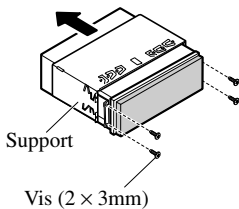

Fig. 13
- **Retirez le support. (Fig. 13)**